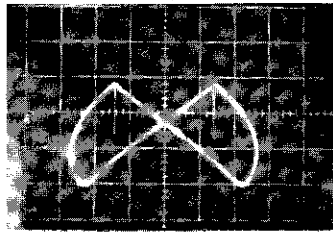
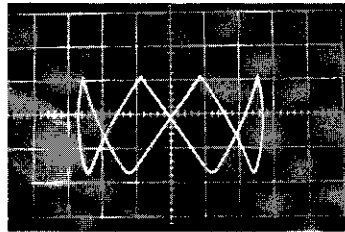

Figure 22
Figure 21
- (1) Remove the external control voltage source from the VCO and set the low end trimmer potentiometer (R21 located at the rear of the case) to about the mid-point of its rotation.
- (2) Press and hold the highest key of the keyboard (C) and adjust the "pitch" knob (R20 located on the keyboard control panel) for the pattern shown in figure 22 indicating that the output of the VCO is exactly 4 times the reference frequency. (NOTE: you do not expect that the test oscillator will be any closer than about 5% to exactly 260 Hz, but because the frequency remains the same and Lissajous patterns are used to set the VCO to exact multiples of that reference it doesn't matter that the reference is not exact. Similarly, it is of little importance that 260 Hz. is not exactly C).
- (4) Once again press the highest C and check to see if the frequency has changed slightly (it probably has). Readjust the pitch knob for the pattern shown in figure 22.
- (5) Go back and forth between the highest and lowest C until the patterns corresponding to these keys are stable without further adjustment. (a slight rotation of the traces is acceptable, as long as you are able to recognize them)
- (6) Press and hold the highest C key while rotating the pitch knob counter-clockwise until the point is reached at which the scope displays the pattern shown in figure 21 indicating that the frequency of the VCO is exactly twice that of the reference.
- (8) Once again press and hold the highest key and rotate the pitch knob clockwise until the 'scope shows the pattern of figure 22.
- (9) The trimmers for the intermediate C's of the keyboard are marked with arrowheads on the voltage divider circuit board. Press and hold the key corresponding to the higher of these two intermediate C's and adjust its trimmer potentiometer until the pattern shown in figure 21 is displayed on the 'scope.